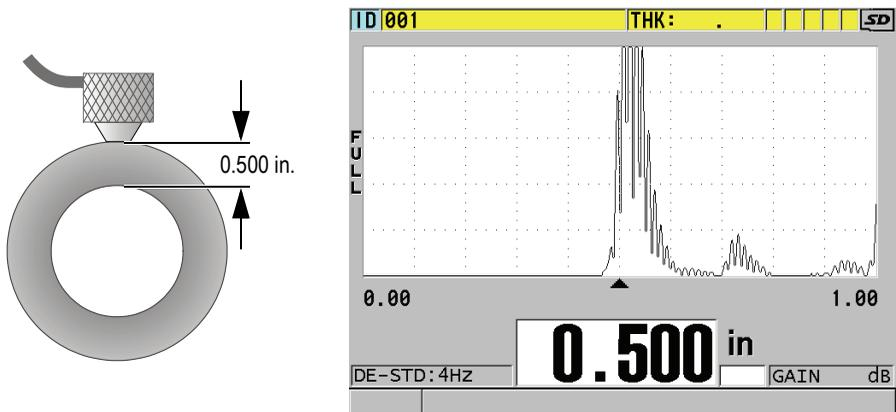

Figure 5-9 Coupling dual element transducer and reading the measured thickness
- Using moderate to firm pressure, couple the tip of the transducer to the surface of the test material, and keep the transducer as flat as possible on the material surface (see Figure 5-9 on page 70).